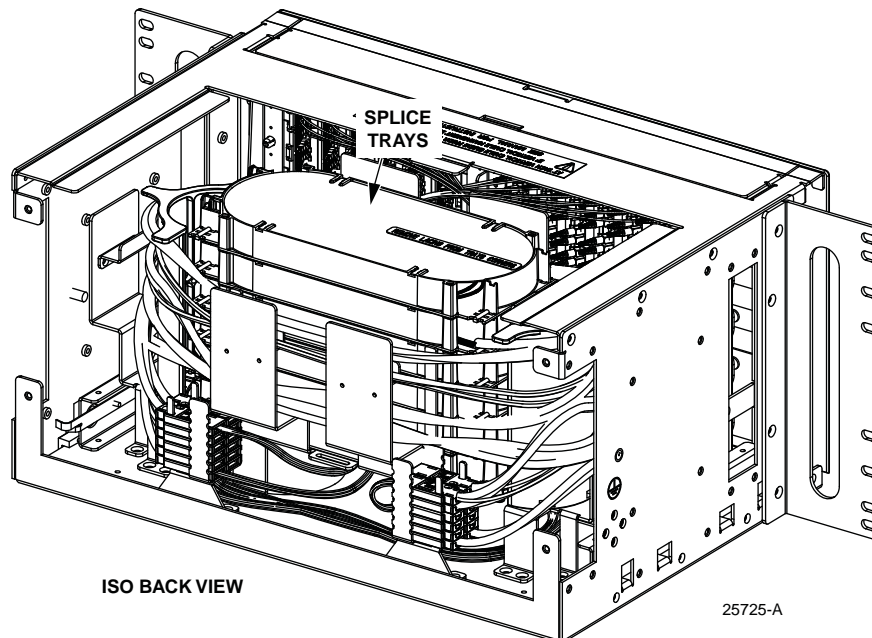

Figure 29. Stacked Splice Trays in 5RU Panel
4. Stack up the splice trays as shown in Figure 29 and secure the splice tray slack with the Velcro strip provided (not shown in figure).